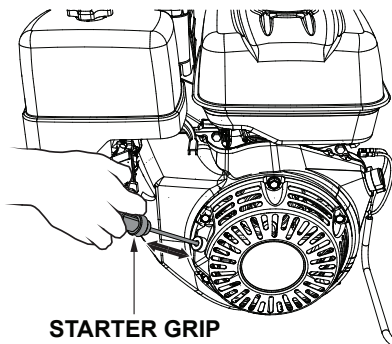

Figure 15. Starter Grip
6. Pull the **starter grip** (Figure 15) lightly until you feel resistance, then pull briskly. Return the starter grip gently.